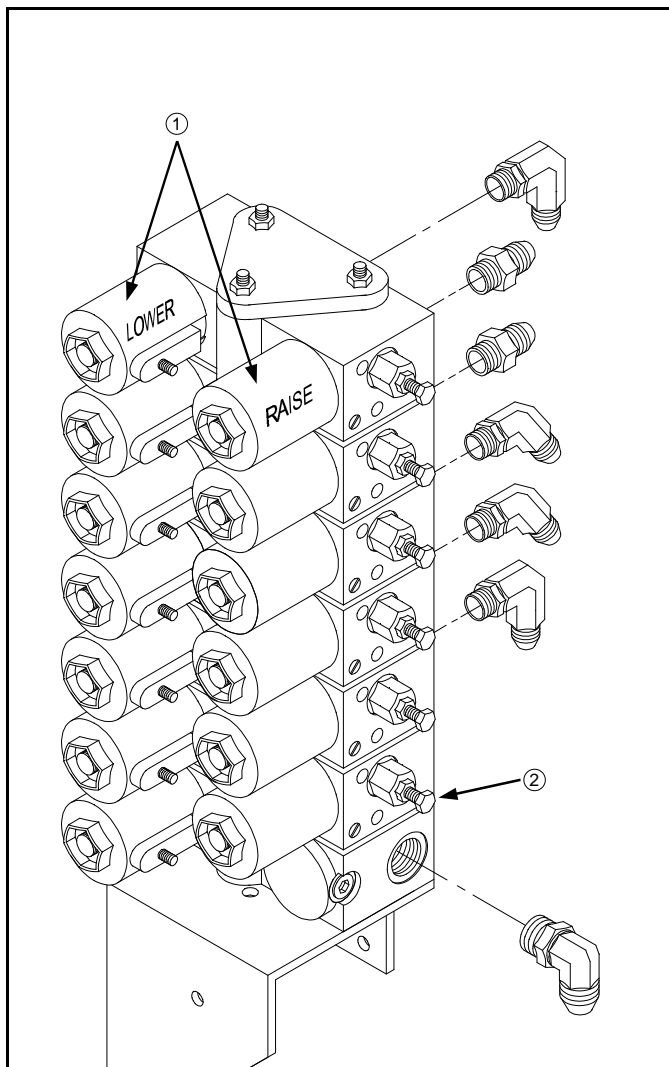

FIG 5.9
The electro-hydraulic valve which control the height of the detasseler head lift cylinders is equipped with adjustable raise and lower orifices controlled by independent coils (fig 5.9, item 1). Upon initial setup adjust the orifice screws (fig. 5.9, item 2) as follows, then see page 46 for more precise adjustment: